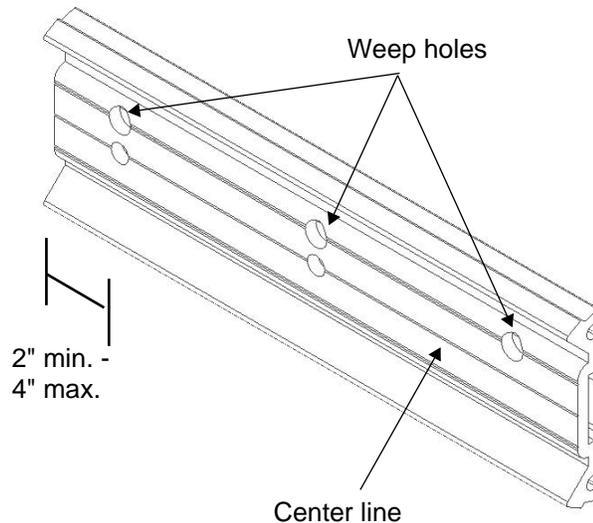

Figure 2: Install three weep holes in the horizontal pressure plate.
- Drill three weep holes in the horizontal pressure plate: two halfway between the center and the end of the pressure plate and one at the center of the pressure plate, as shown in Figure 2.